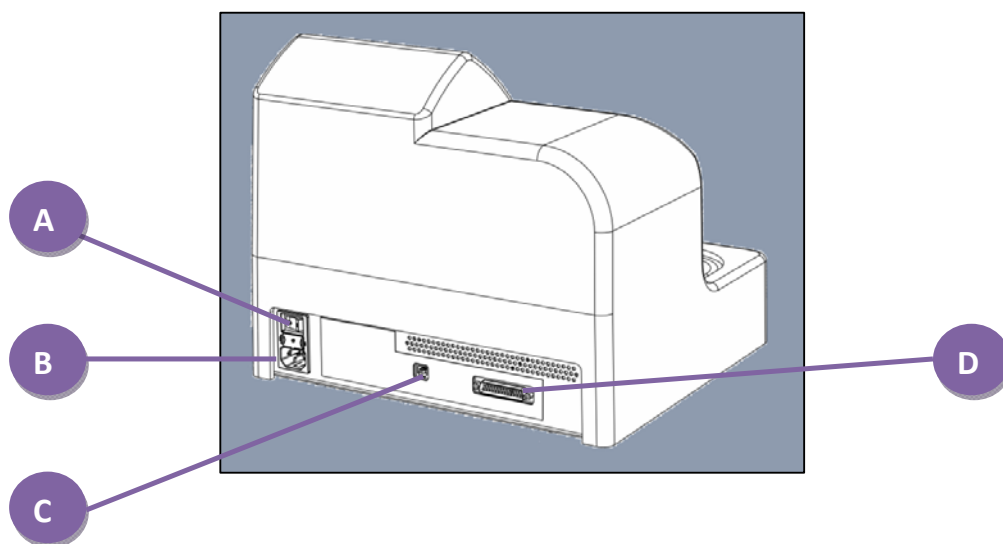

Figure 2 AIM™, back view
3. Switch the instrument on using the power located on the back of the AIM™. The main power switch is marked with a '1' (ON) and a '0' (OFF). See Figure 2.